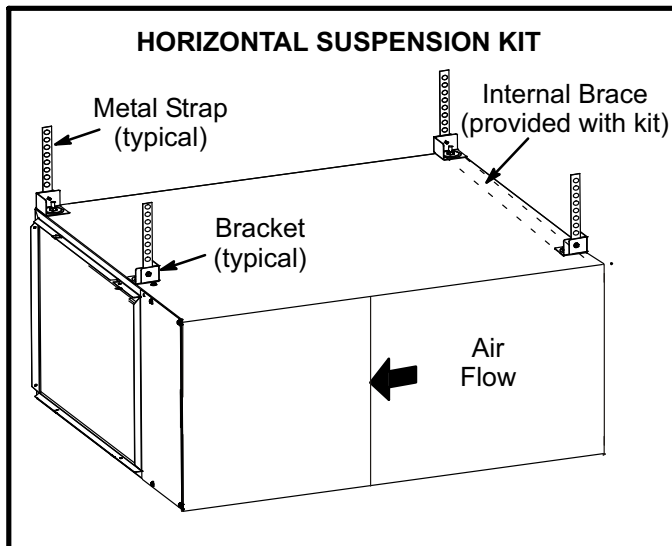
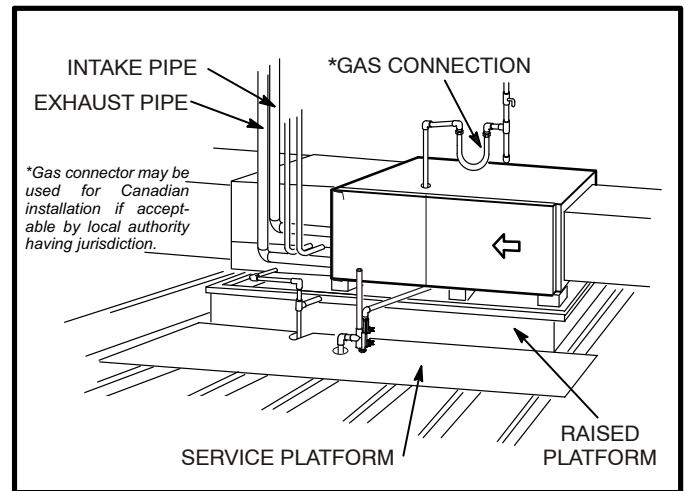

FIGURE 19
FIGURE 20
This furnace may be installed in either an attic or a crawl-space. Either suspend the furnace from roof rafters or floor joists, as shown in figure 19, or install the furnace on a platform, as shown in figure 20. A horizontal suspension kit (51W10) may be ordered, or use equivalent.
- 2 - Construct a raised wooden frame and cover frame with a plywood sheet. If unit is installed above finished space, install an auxiliary drain pan under unit. Set unit in drain pan as shown in figure 20. Leave 8 inches for service clearance below unit for condensate trap.